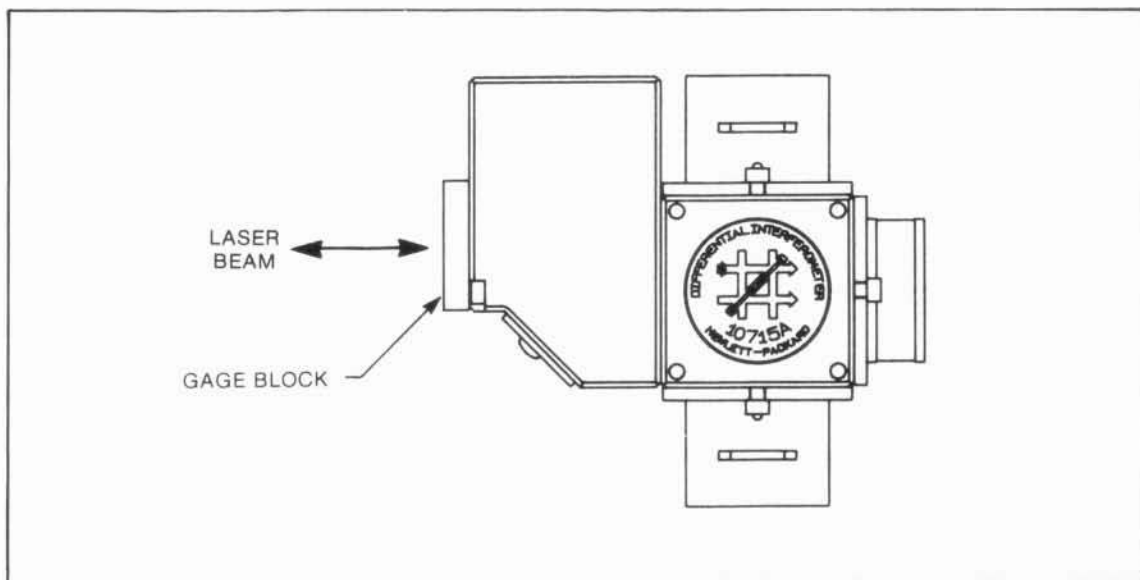

Figure 6-36. HP 10715A with Gage Block Attached
- d. Place a rectangular gage block over the input aperture so that it reflects the laser beam back toward the laser. (See Figure 6-36.)